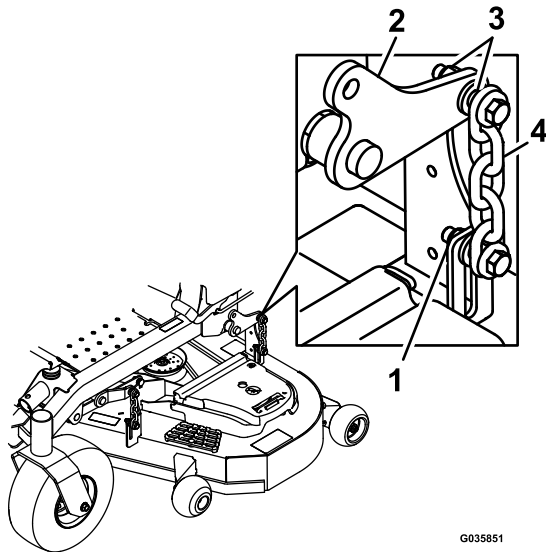

Figure 100
16. Loosen the locknuts (Figure 100) on all 4 corners and ensure that the mower deck is sitting securely on all 4 blocks.